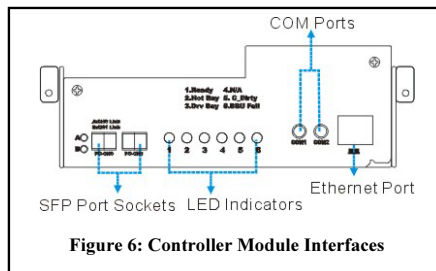

Figure 6: Controller Module Interfaces
The FC-to-SATA controller modules come with two SFP port sockets at the rear of the controller module for host connectivity and can be seen in *Figure 6*. (Details on FC cables and SFP ports can be found in *Hardware Manual*).
Each controller module comes with two (2) COM ports. The port on the left (COM1) is reserved for terminal emulation management. This port can be used to assign a permanent IP to the Galaxy subsystem. The port on the right (COM2) is used for UPS connectivity. One (1) audio-jack to DB9 cable is provided to facilitate the connection of COM1 port. Purchase an additional cable to connect the subsystem to a UPS through the COM2 port. (See *Figure 6*)
After the Galaxy subsystem has been assigned a permanent IP, a shielded Ethernet cables can be used to connect the RJ-45 Ethernet port to a hub on a network, enabling you to manage your subsystem via the web. (See *Figure 6*)